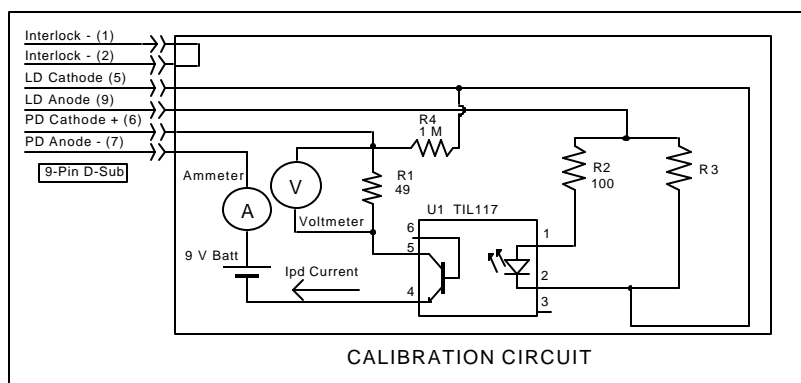

Figure 5.1 I_{pd} Calibration Circuit
It will be necessary to connect various loads and circuits to the outputs of the module for the calibration procedure. The devices required for most of the calibration loads are listed in Table 5.2. A schematic is shown in Figure 5.1 for the photodiode calibration circuit, with the required components listed in Table 5.3.
| PHOTODIODE MONITOR CALIBRATION (See schematic in Fig. 5.1) | |
- a. With the output off, connect the IPD calibration circuit, Figure 5.1, to the laser connector.